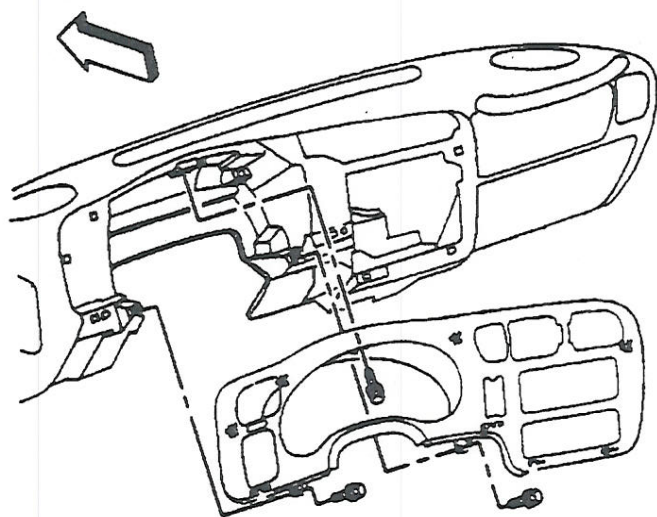

Fig. 28 Instrument panel trim plate removal.
8. Remove truck body control module, then the instrument panel accessory trim plate as illustrated in Fig. 28.